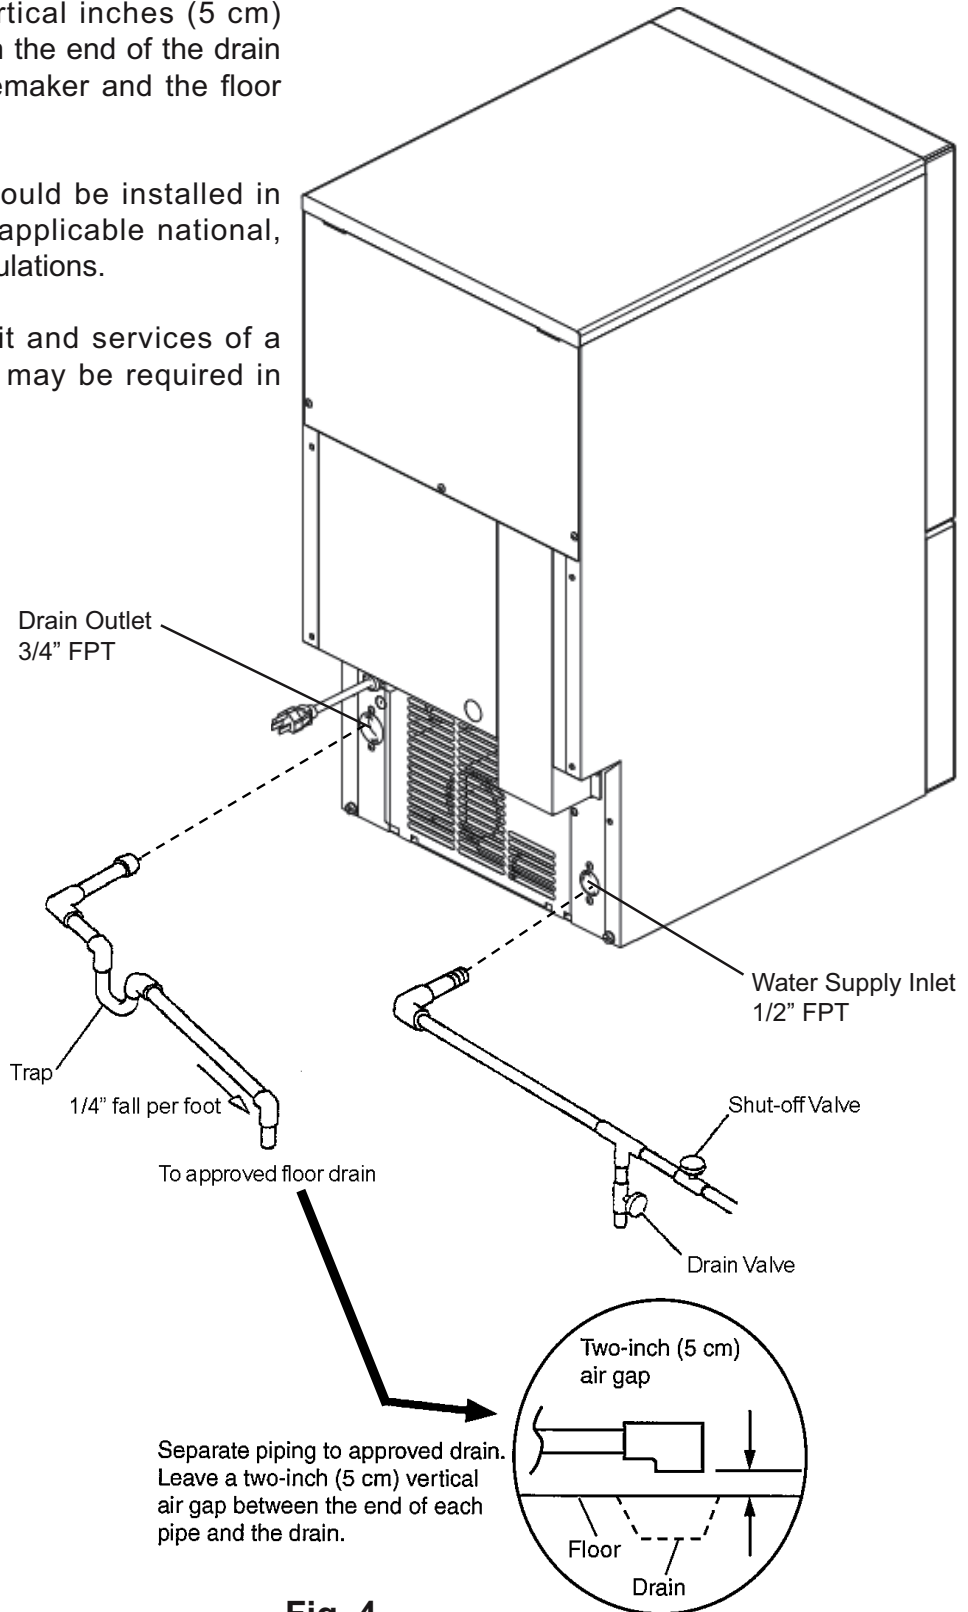

Fig. 4
F. Water Supply and Drain Connections - See Fig. 4